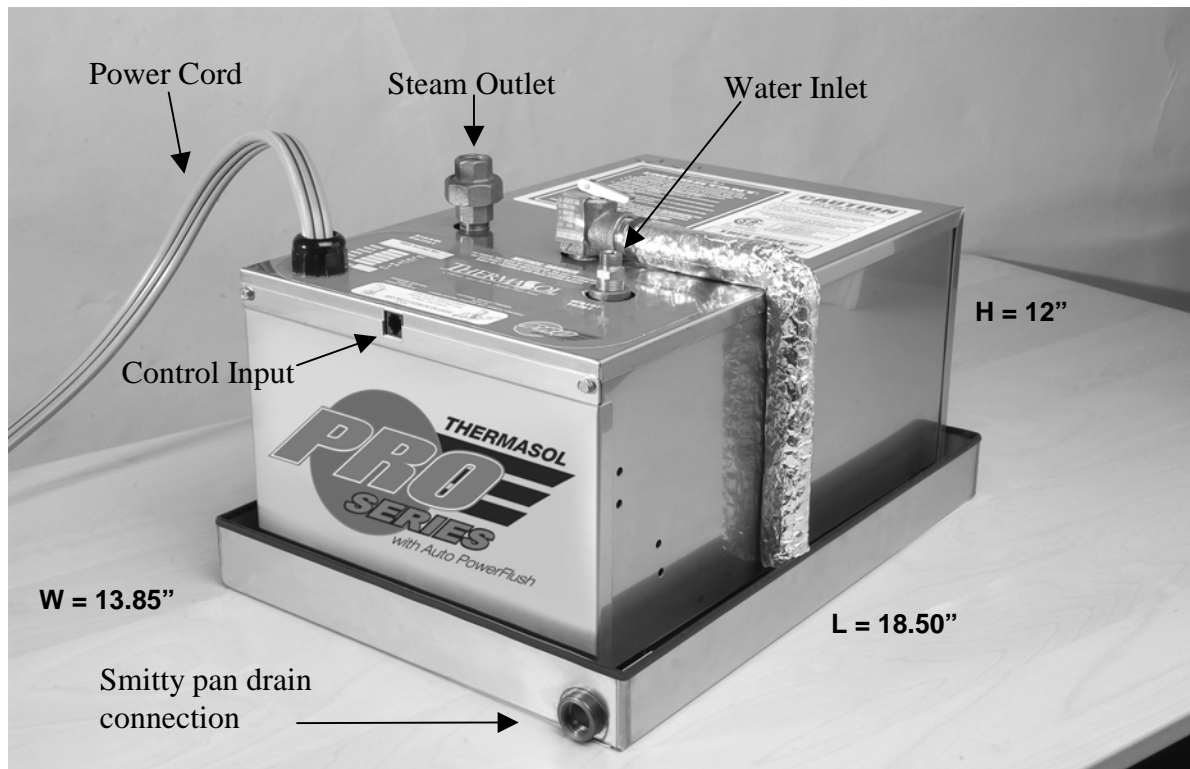

Figure 1
4. The **generator must be upright, accessible and on a level surface** with **all** connections on top. **Access panel must be unobstructed and allow for easy access. See figure 1.**